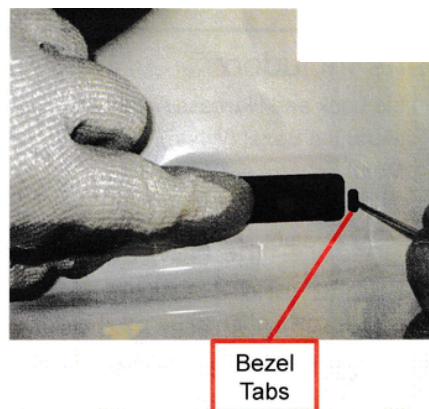

FIGURE 2
3. Using a small screwdriver, push down gently on the locking tab that prevents the lock assembly from moving. *See Figure 2.*